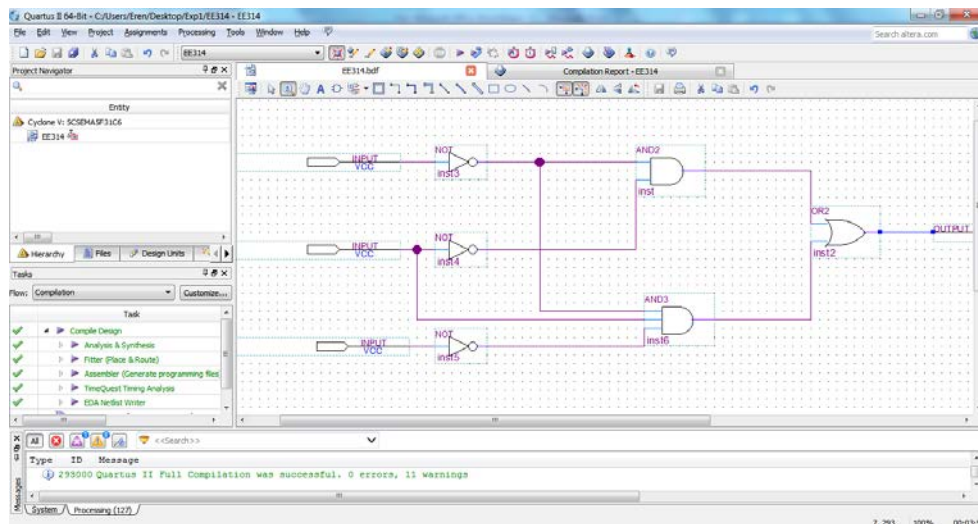

Fig. 8: The screen after a successful compilation
- 1) Run the compiler selecting **Processing > Start Compilation** or  icon. You are supposed to save your project before compiling. As the compilation is continuing, the progress is reported at the left of the schematic. When the compilation finishes, compilation report is produced. A tab showing the report is opened automatically and you can close it. To open it whenever you want, click **Processing>Compilation Report**. There are several messages are in the message window. When compilation becomes unsuccessful, appropriate messages will be given in there. The interface looks like in Fig. 8 after a successful compilation.